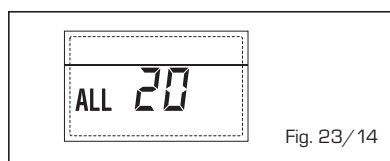

Fig. 23/14
– **ANOMALIA GUASTO Sonda MANDATA PRIMA ZONA MISCELATA “ALL 21” (fig. 23/15)**